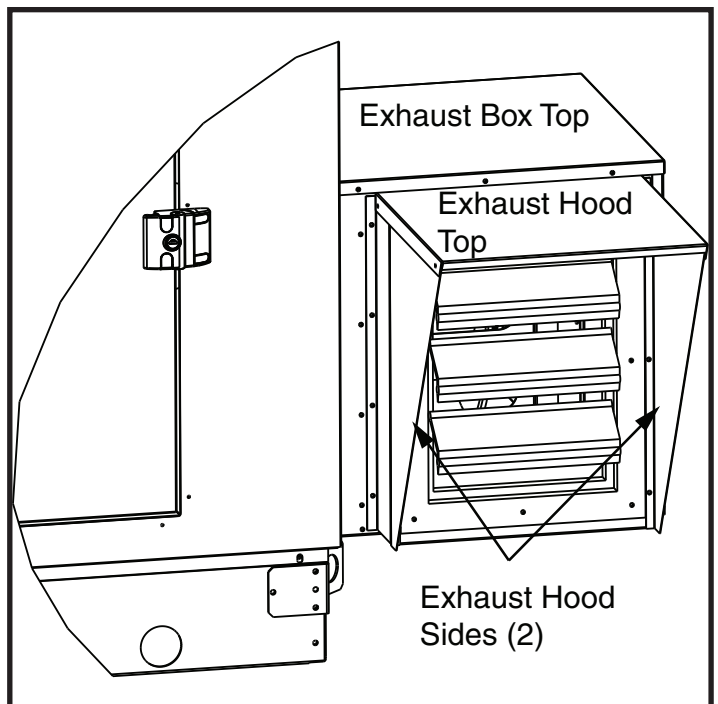

Figure 3. Completed Unit
9. Attach both sides to louver frame with supplied fasteners. See Figure 3.
10. Apply sealant to mating surfaces of top of exhaust hood and fasten in position. See Figure 3.